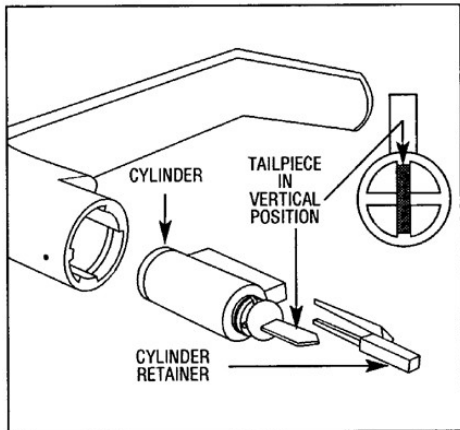

FIG. 20: STANDARD CYLINDER-LEVER, TAILPIECE AND RETAINER.
3. With key in cylinder untouched (still at 45 degrees clockwise), position lever on spindle and press until lever catch engages. Remove key and test lever for proper engagement by turning and pulling. For IC models, see Fig. 20.
- Install the tailpiece, cylinder retainer and cylinder into the standard lever as shown in Fig. 20.